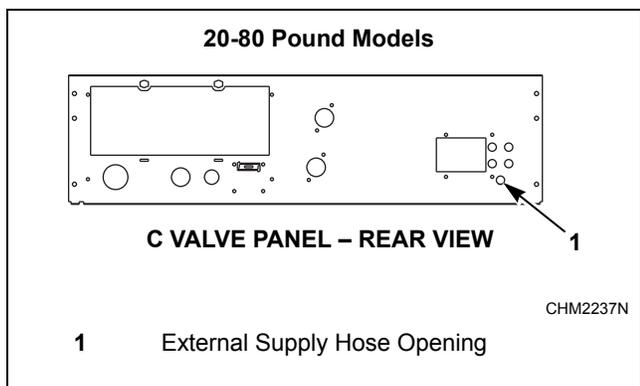

Figure 31
1. Facing the rear of the machine, locate the five 3/8 inch supply hose connections found on the right-hand side of the valve panel. Refer to *Figure 31*.